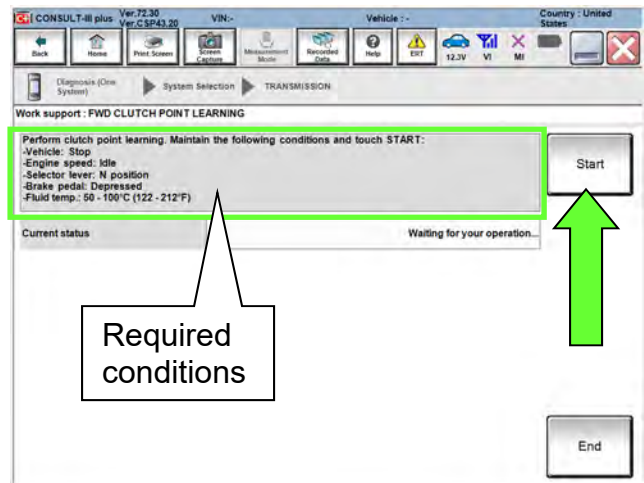

Figure 43
53. With the engine still running and at idle, depress the brake pedal and shift the CVT into neutral (N).
- Confirm that all of the required conditions indicated in Figure 43 are being met.
55. While maintaining all conditions shown in Figure 43 and the “Current status” indicates “EXECUTING”, shift the CVT into **D** and then wait until the Current status indicates “COMPLETED”.
**NOTE:** This may take up to three (3) minutes to complete.